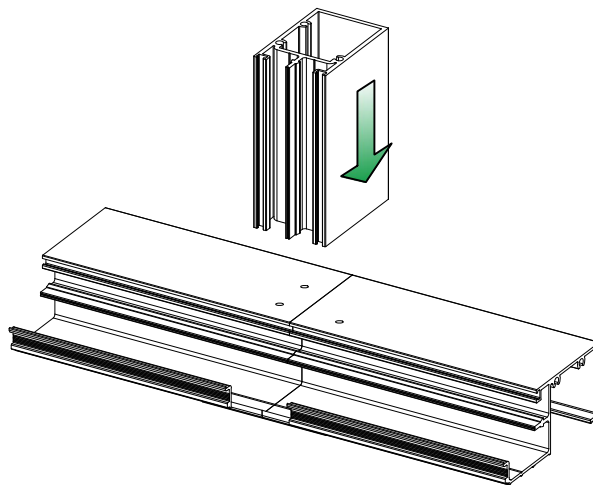

FIG. 2
- A. Set vertical mullion over splice location so screw splines will fasten to both sides of splice location. Fig. 2.